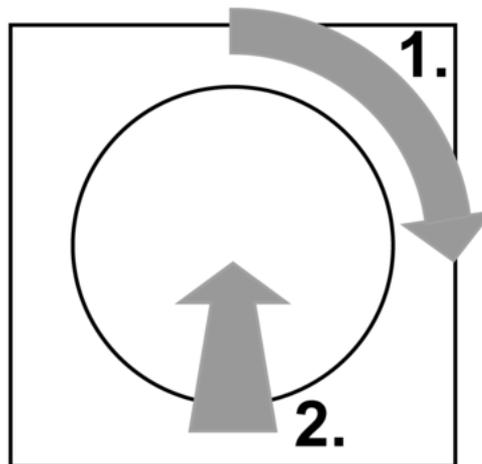

Figure 3: Maximum brightness
- Turn control button a quarter turn in the clockwise direction and press control button (Figure 3).